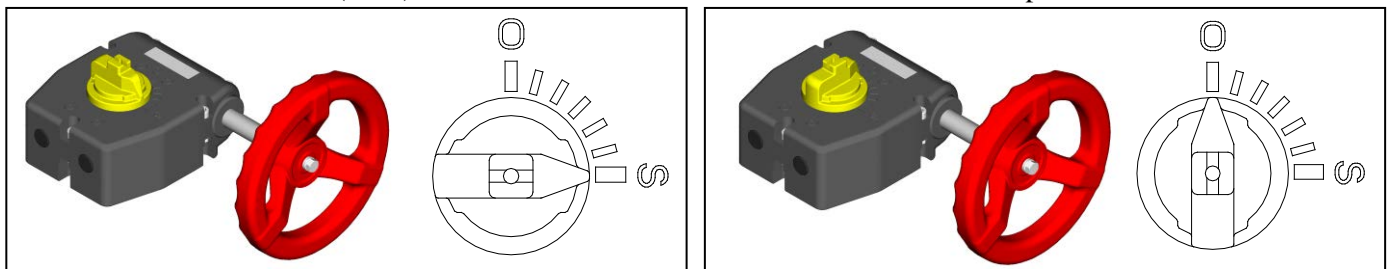

Fig.9-2
- 3) In case of gear type (40-350 mm {1 1/2"-14"}), the indicator shows the position of the disc on the top of gear box. (Fig.9-2, Fig.9-3)
- For the full-shut (close) position, the indication shows Shut (S).
- For the full-opened position, the indication shows Open (O).